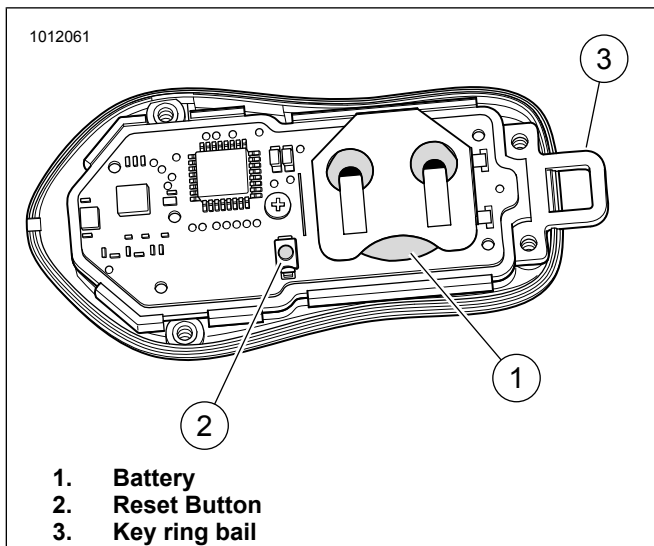

Figure 5. Fob Reset and Battery
See Figure 5. The key ring bail (3) can fall when cover is removed. Use care not to lose it.
- See Figure 5. Remove four screws securing the back cover of fob. Remove cover.
5. Press and hold button (2) until Spectra Glo lights on vehicle cycle through all seven color zones.
2. See Figure 5. Press and hold button (2) until Spectra Glo lights on vehicle cycle through all seven color zones. Continue to hold an extra 5 seconds until Spectra Glo lights cycle through all seven color zones a second time.
- See Figure 5. Remove four screws hold on back cover of fob. Remove cover.
2. Remove battery (1) by pushing battery out of retainer.